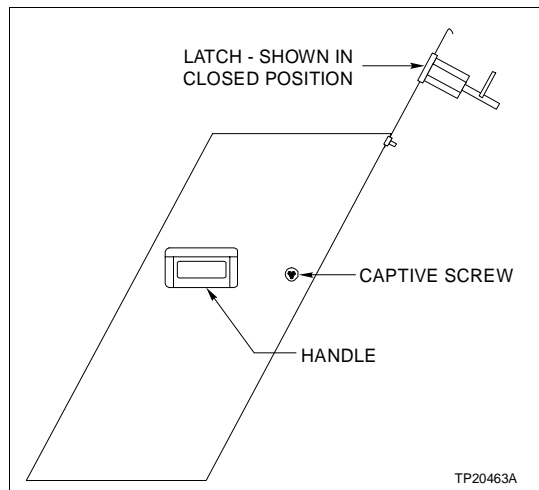

Figure PR2-1. Pedestal Cover Removal
1. Use the M8 Allen wrench to loosen the two captive screws on the sides of the pedestal cover (Fig. PR2-1).